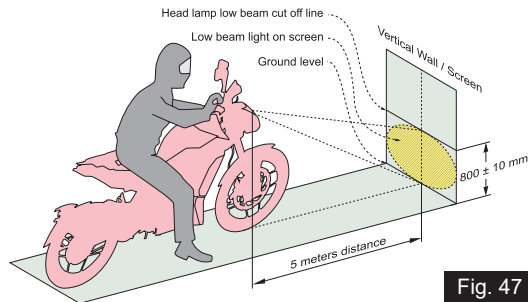

Fig. 47
- Place the motorcycle upright in a uniform flat surface while ensuring the headlamp center is 5 meter away from a vertical wall or screen (ref. Fig. 47).
- Mark a horizontal line on the wall or screen around 800 ± 10 mm from the ground level and mark a vertical line in the middle of the horizontal line (ref. Fig. 47).
- Now, turn the headlamp to low beam mode and ensure the headlamp low beam focus falls between 800 ± 10 mm from the ground level as shown (ref. Fig. 47).